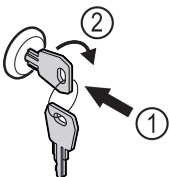

Fig. 170
- ▶ Insert key Fig. 170 (1).
- ▶ Turn key clockwise by 90° Fig. 170 (2).